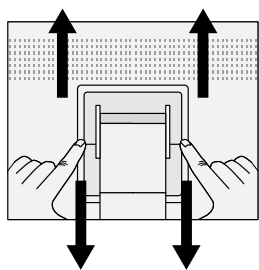

Figure S.2
3. Press the “▼” portion with your index finger and at the same time slide the lower stand cover. (**Figure S.2**)